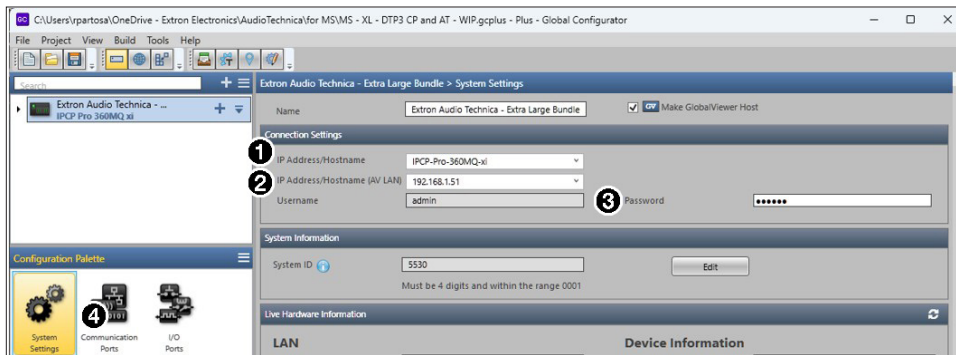

Figure 34. Configuration View — System Settings page for Control Processor
2. Set the IP address (see figure 34, ❶), and Admin password (❸) of the Control Processor, and, IP address for AV LAN (❷).